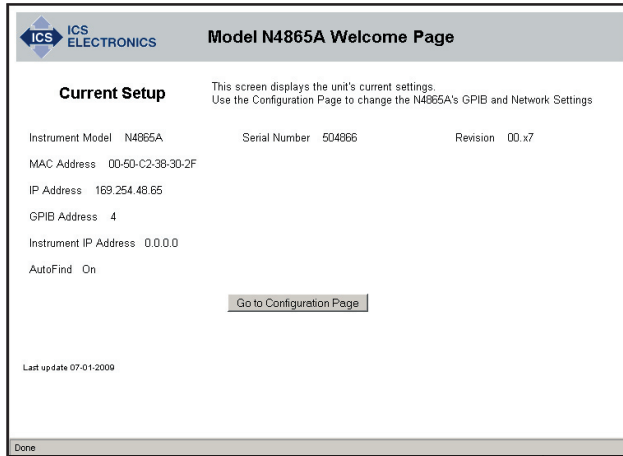

Figure 2-4 N4865A Welcome Page
5. A Welcome Page similar to the one shown Figure 2-4 should appear in your browser. Here you can read all of the information about the N4865A including its MAC number.